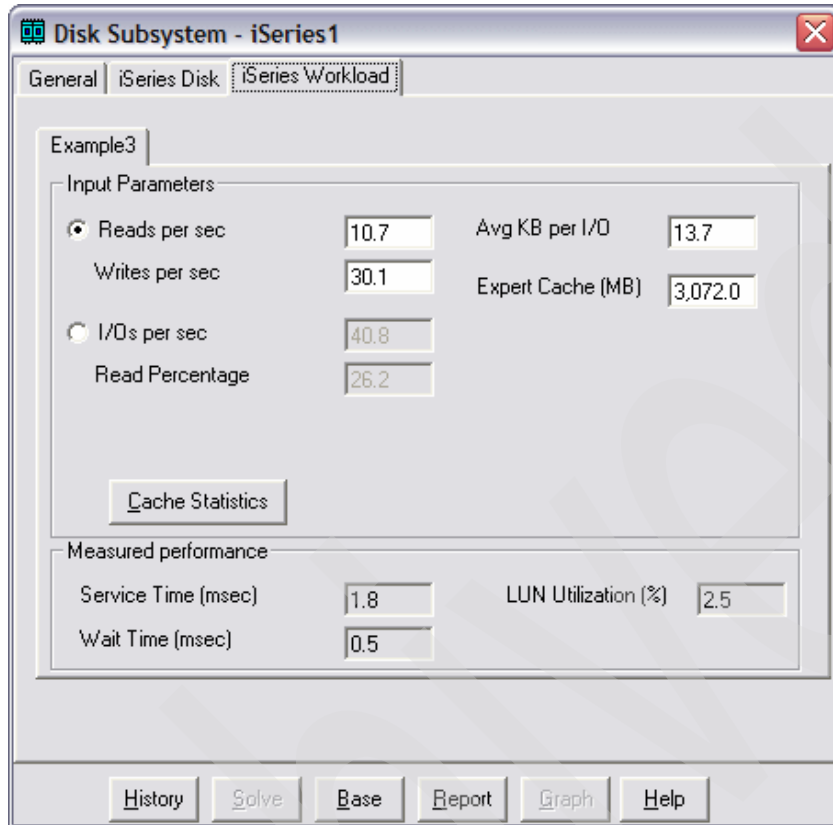

Figure 4-71 Workload on internal disks
5. Select the iSeries Workload tab. Notice the I/O rate on the internal disks as shown in Figure 4-71. In our example, a low I/O rate is used for the internal disks.